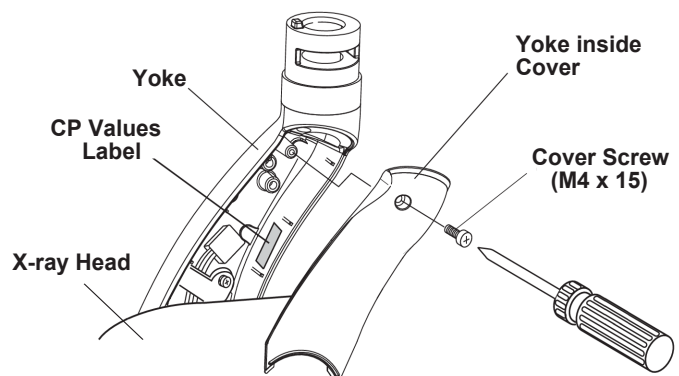

Fig.3-16 Removing Yoke Inside Cover
- Open the yoke inside cover of x-ray head by removing (M4 x 15mm) cover screw. (Fig.3-16)
7. Reattach the yoke inside cover with the screw (M4 x 15mm). Before closing the cover, note the CP values on the CP values label inside of the yoke. (**Fig.3-16**)